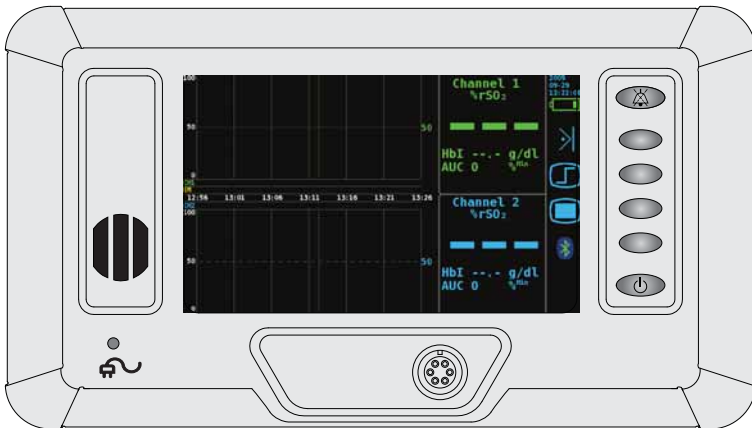

Figure 1: Model 7600 Regional Oximeter Monitor
- 7600, Regional Oximeter Monitor (figure 1)